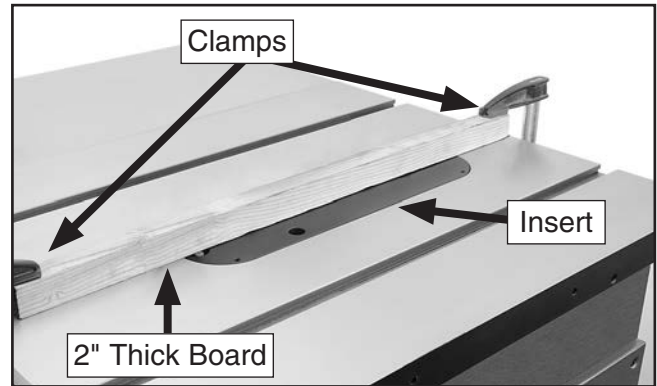

Figure 72. Securing insert with board and clamps.
5. Center a board at least 2" thick and equal to the length of the table over the rear opening of the insert, then secure it with clamps at both ends, as shown in **Figure 72**. This will provide extra support for the insert and reduce tear out when cutting.